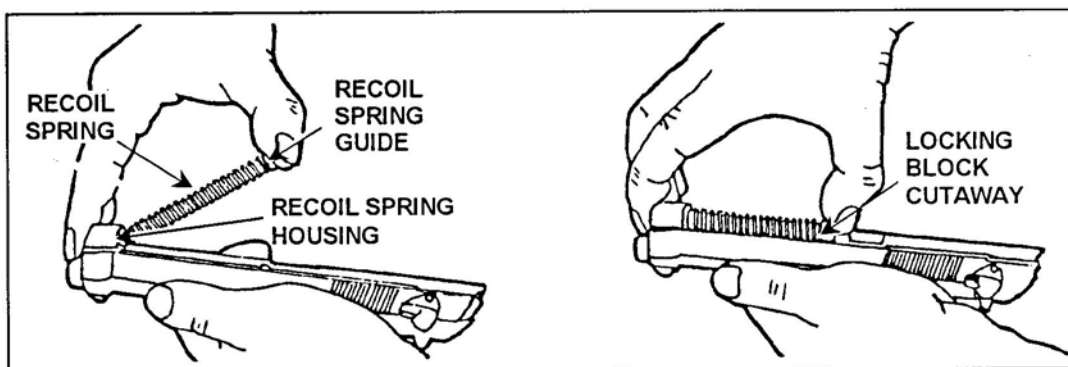

Figure 7. Insertion of the recoil spring and guide.
- e. Insert the end of the recoil spring and the recoil spring guide into the recoil spring housing. At the same time, compress the recoil spring and lower the spring guide until it is fully seated on the locking block cutaway (Figure 7).